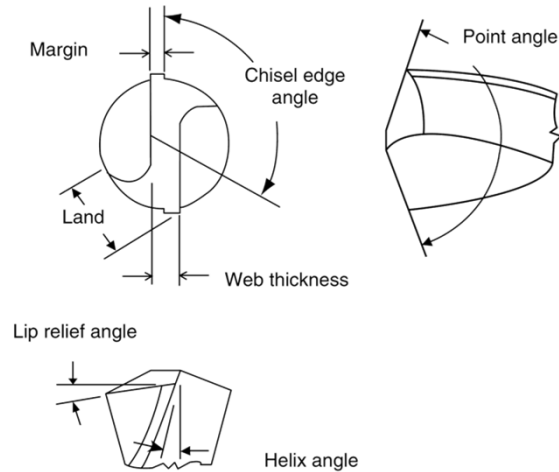

FIGURE 3.16 Terminology of a standard point twist drill.
- A standard twist drill (Figure 3.16) is characterized by a geometry in which the normal rake and the velocity of the cutting edge are a function of their distance from the center of the drill.